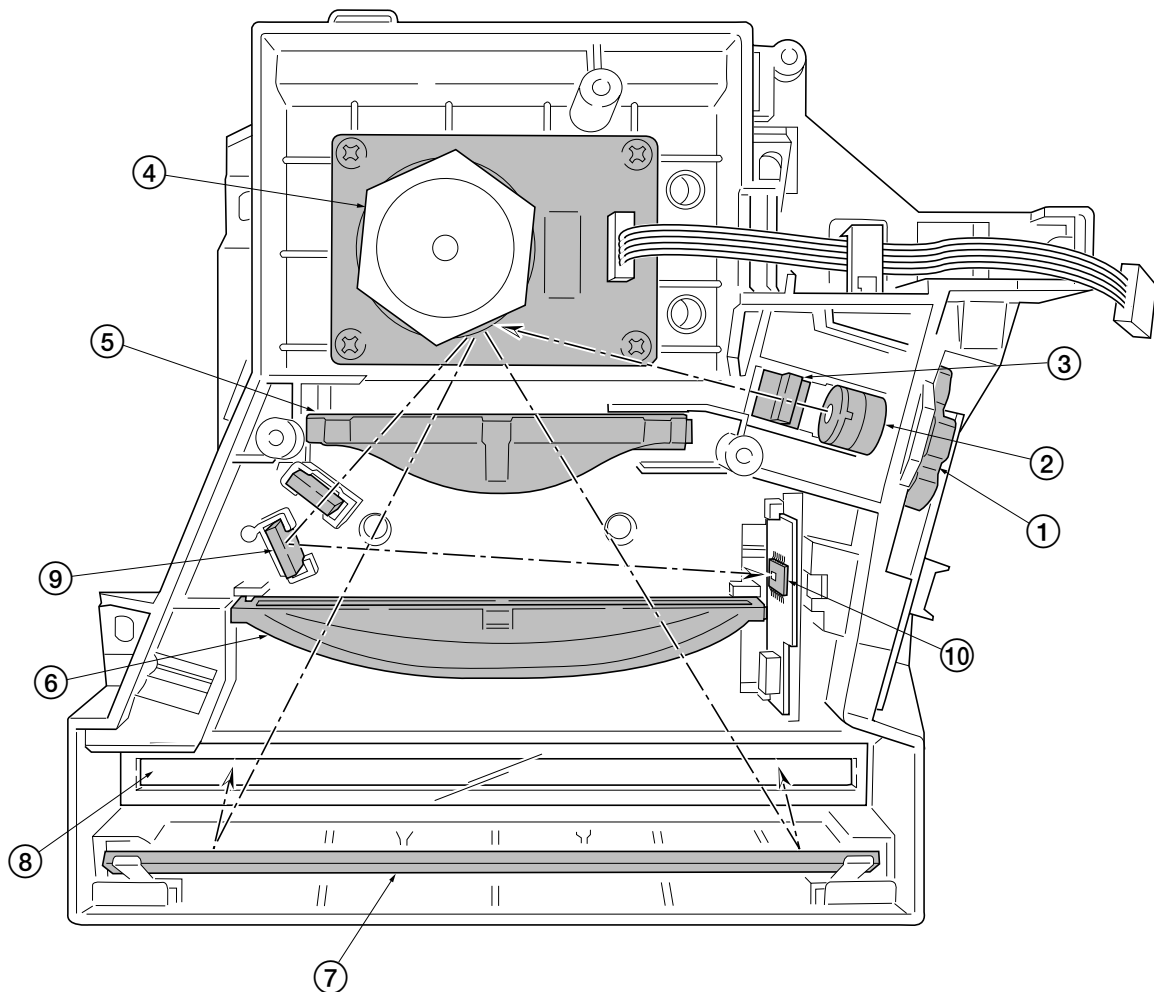
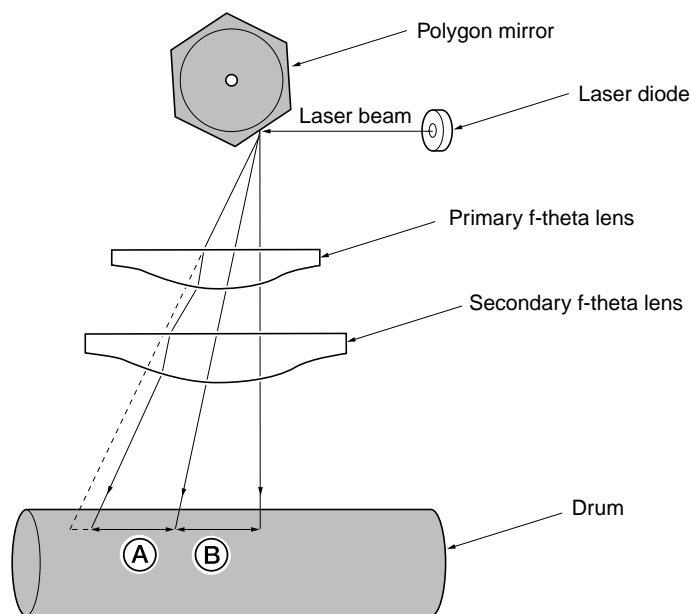

Figure 4-1-6 Laser scanner unit
Figure 4-1-7 F-theta lens
⑤ Primary f-theta lens	See figure 4-1-7 below.
⑥ Secondary f-theta lens	The primary (above) and secondary f-theta lenses equalize focusing distortion on the area on the drum closer to the edge. The effective length of line (A, B in the figure below) the laser beam draws on the drum becomes longer as the laser beam hits closer to the drum edge. In the figure 4-1-7 below, distances represented by A and B are not the same ($A > B$) until the f-theta lenses are provided between the polygon mirror and the drum ($A = B$).
⑦ Diversion mirror	Diverts the laser beam vertically onto the drum. Note the diffused laser beam finally pinpoints on the drum.
⑧ Protective glass	Prevent dust, debris, etc., from entering the scanner assembly.
⑨ Sensor mirror	Bends the very first shot of a laser scan towards the pin photo sensor (See figure 4-1-6).
⑩ Pin photo sensor	When shone by the sensor mirror above, this pin photo sensor generates a trigger signal.